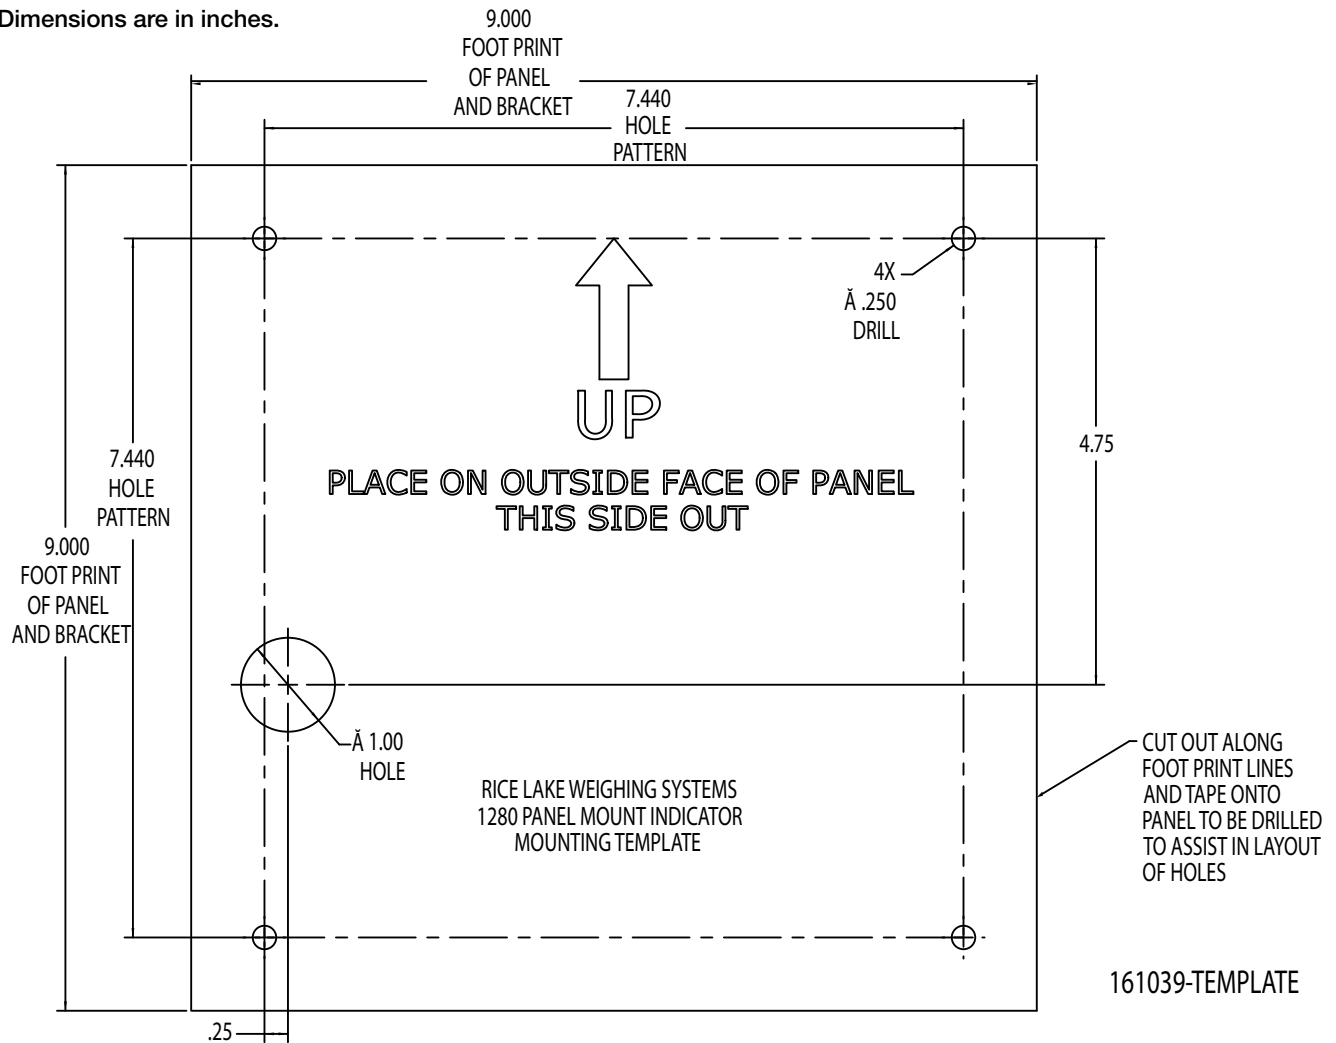

Figure 2-17. Panel Mount Dimensions
1. Tape the panel mount template to the outside of the panel. See Figure 2-15 and Figure 2-17.
*This illustration is not to scale. It is for illustration purposes only. Use the dimensions in Figure 2-17 to mark the holes for the panel mount, or use the template provided with the indicator. Do NOT use Figure 2-17 as a template.*